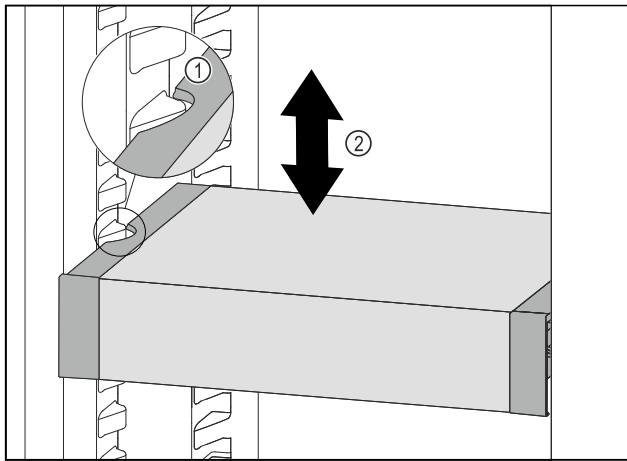

Fig. 135
- ▶ Pull VarioSafe forwards until the recesses in the side of the VarioSafe are at the level of the support rib in the refrigerator compartment. Fig. 135 (1)
- ▶ Move VarioSafe up or down in the refrigerator compartment until the desired height is reached. Fig. 135 (2)